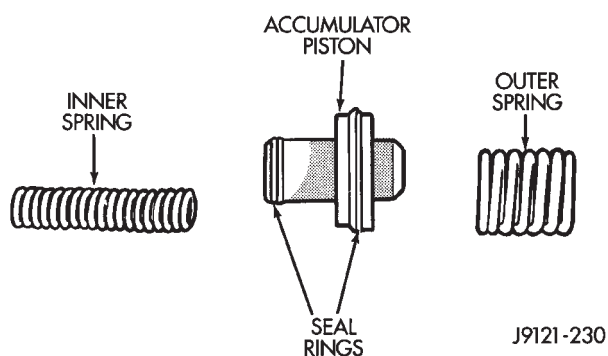

Fig. 42 Accumulator Piston Components
- (3) Check condition of seals on accumulator piston (Fig. 42). Install new piston seals, if necessary.
- (4) Place valve body manual lever in low (1 position) so ball on park lock rod will be easier to install in sprag.
- (5) Lubricate shaft of manual lever with petroleum jelly. This will ease inserting shaft through seal in case.